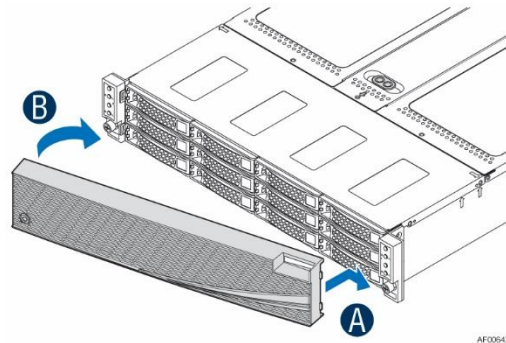

Figure 26. Installing the front bezel
To install the front bezel, lock the right side of the bezel to the rack handle (A) and press the left side of the bezel towards the chassis until it clicks into place (B) as pictured in Figure 26.